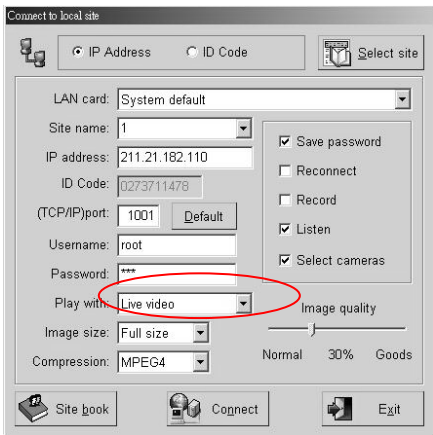
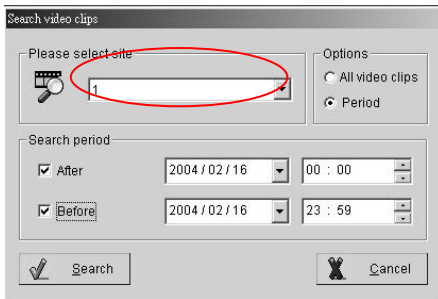

Fig. 7-3
Fig. 7-4
Step 1. Click  on the tool bar, enter the **site name** and **IP address or ID code** of Local DVR Servers where the video clips you want to play back stored on. Select **“Remote Playback”** on **“Play with”** box as **Fig.7-3**, then click **“Connect”**. And you will see the **Fig.7-4**.
Step 1. Click  on the tool bar; enter the **Local site** and **IP address** or **ID code** of Local DVR Servers where the video clips you want to download stored on. Select **“Remote download”** on **“Play with”** box as **Fig.7-3**, then click **“Connect”**.